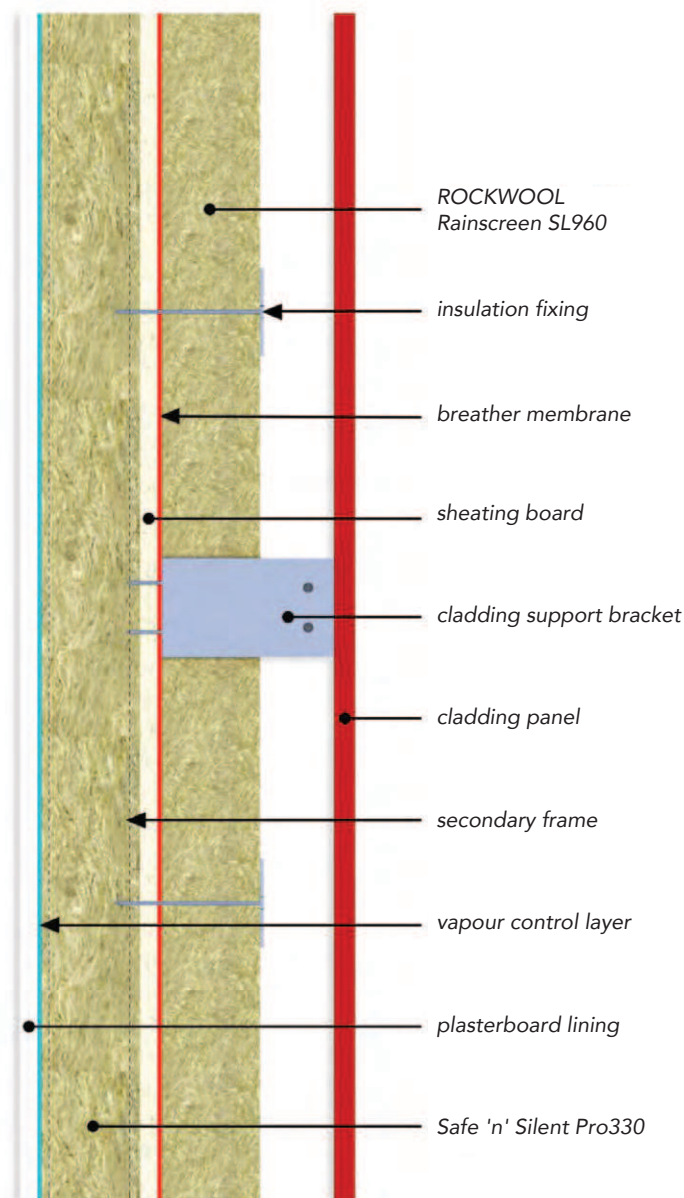

Figure 1: ROCKWOOL Rainscreen insulation for cladding systems with steel frame
- Fixings should have a minimum head diameter of 70mm. A typical fixing pattern has three fixings per square metre with one metal fixing at the centre of every slab (see Figure 1).
- For a typical installation, a breathable membrane is placed between the sheathing board and the product (see Figures 1). A vapour control layer is placed between the plasterboard and the frame (when required).